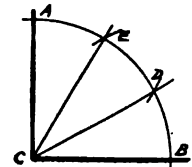

Fig. 51.
**Problem 3.** To trisect a right angle. (Fig. 51). With a compass lay off A and B equally distant from C. Then with A and B for centers without changing the compass lay off arc DE. Then CD and CE trisect the right angle. **Note:**—In this way angles of  $30^\circ$  and  $60^\circ$  may be obtained.